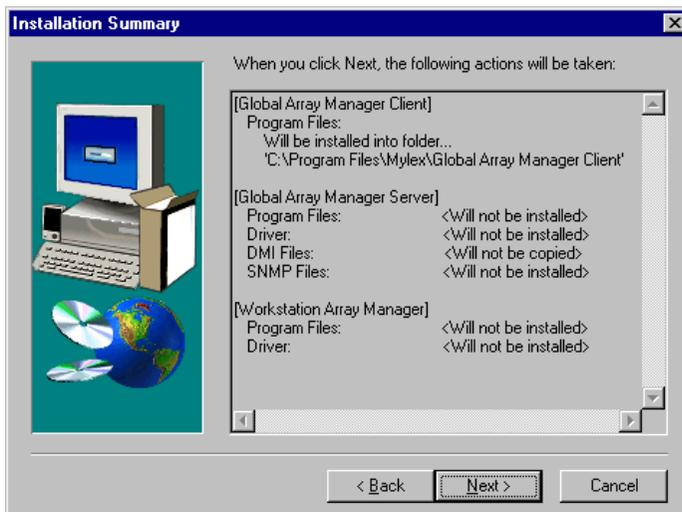

Figure 2-9. Installation Summary
2. The Installation Summary screen (Figure 2-9) summarizes the components and subcomponents you've selected for installation. Click Next to continue or Back to change selected components.